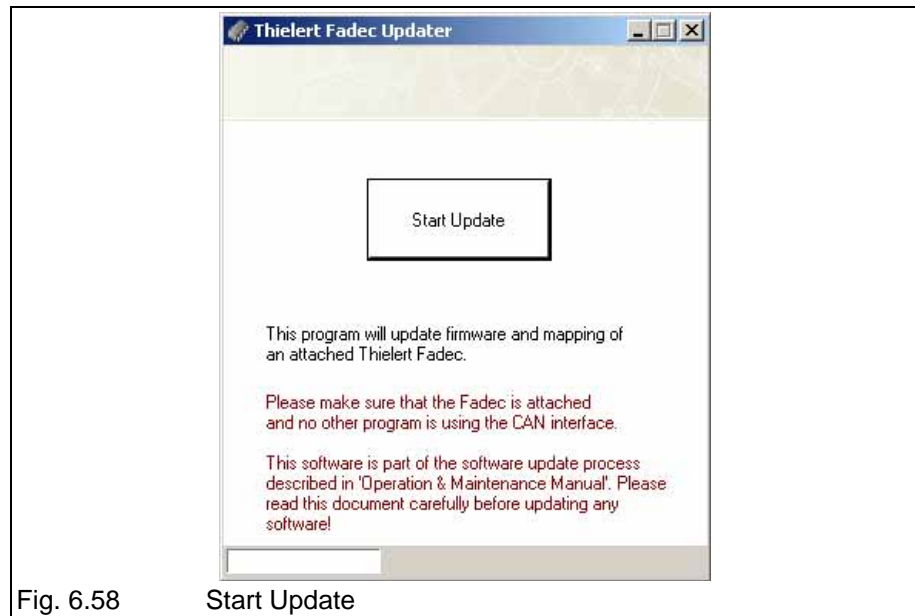

Fig. 6.58 Start Update
5. Press "Start Update" to continue to the current information screen. The attached FADEC will be scanned for current firmware and mapping information. See Fig. 6.58.